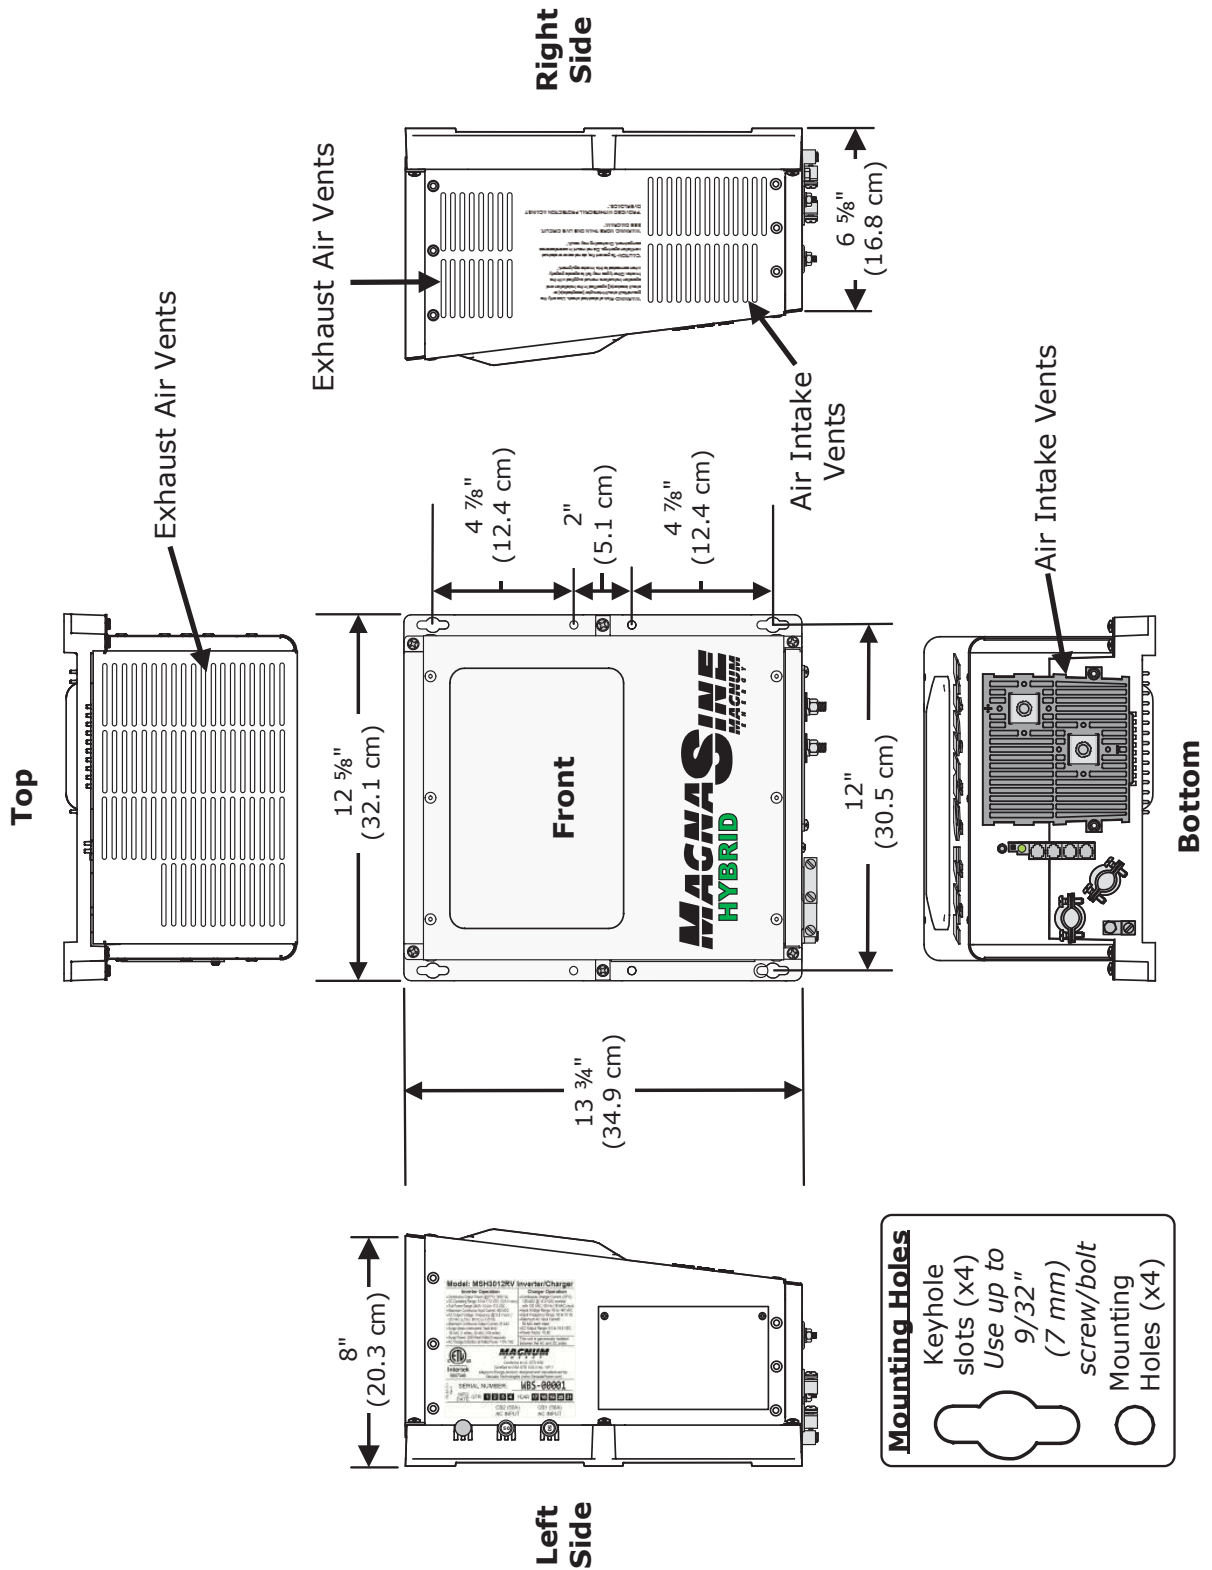

Figure 2-3, MSH3012RV Dimensions and Side References
- 10 **Intake Air Vents** – ventilation openings to pull in air to help keep the inverter cool for peak performance. The intake air vents are located on the front side and at the front on the right side; also see Figure 2-3 for the location of the air vents.
- 14 **Exhaust Air Vents** – ventilation openings that allow heated air to be removed by the internal cooling fan. The exhaust air vents are located on the back side and at the rear on the right side; also see Figure 2-3 for the location of the air vents.
Accessible – Do not block access to the inverter’s remote control and accessory ports, as well as the inverter’s controls and status indicator. Allow enough room to access the AC and DC wiring terminals and connections, as they will need to be checked and tightened periodically. See Figure 2-3 for the MSH3012RV inverter/charger’s dimensions.
After determining the mounting position, refer to the physical dimensions as shown in Figure 2-3, or use the base of the inverter as a template to mark your mounting screw locations. After marking the mounting screw locations, mount the unit with appropriate mounting hardware.